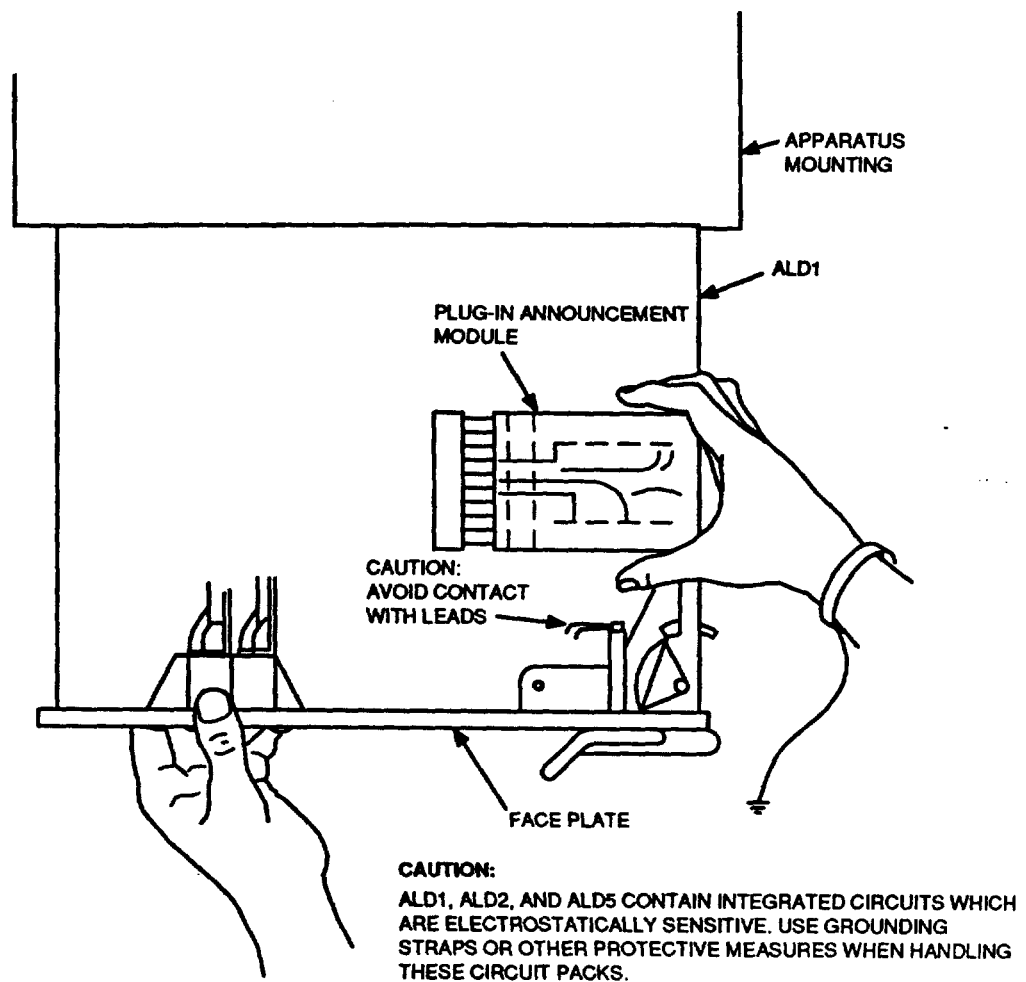

Figure 10. Installation and Removal of Plug-In Announcement Module
- (1) Grip module between thumb and index finger as shown in Figure 10. The EPROM should be facing away from the installer.
- (2) Slide module onto the connector on the ALD1.
- (3) With the ALD1 supported by the other hand, slide the module firmly into the connector until fully mated. A little side-to-side motion is helpful in overcoming the resistance encountered while the module is mating with the connector.
- (1) Grip module between thumb and index finger as shown in Figure 10.
- (2) With the ALD1 supported by the other hand, gently pull the module to the right. A little side-to-side motion is helpful in overcoming the resistance encountered while the connector is mated with ALD1.